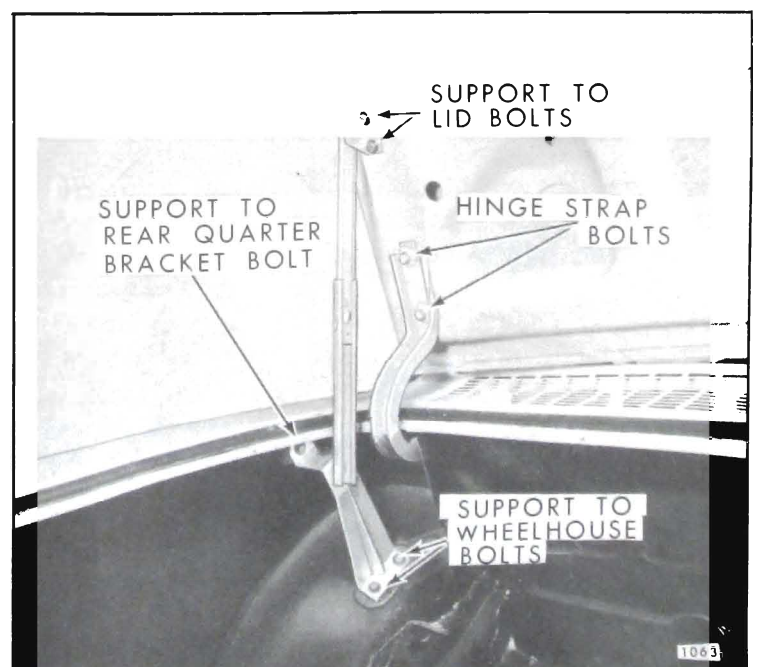

Fig. 9-6—Engine Compartment Lid Support
3. With the aid of a helper holding lid in open position, remove lid support attaching bolts from lid. (See Fig. 9-6.)
4. With lid properly supported, remove hinge strap attaching bolts and remove engine compartment lid from body. (See Fig. 9-6.)
- Remove the two attaching bolts securing support to lid, the two bolts securing support to wheelhouse and the single bolt securing support to rear quarter bracket (see Fig. 9-6) and remove support from body.